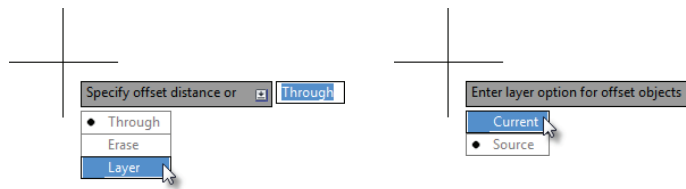

FIGURE 6.40: Choosing the Layer option (left) and the Current option (right)
- a. At the Specify offset distance or: prompt, press the down arrow and select the Layer option (see the top image of Figure 6.40).
- b. The second prompt reads Enter layer option for offset objects. Press the down arrow and select the Current option, or enter **C** to instruct AutoCAD to create offsets on the current layer (A-ROOF), as shown in the bottom image of Figure 6.40.
4. Enter **1'6** (457) when prompted to specify the offset distance.